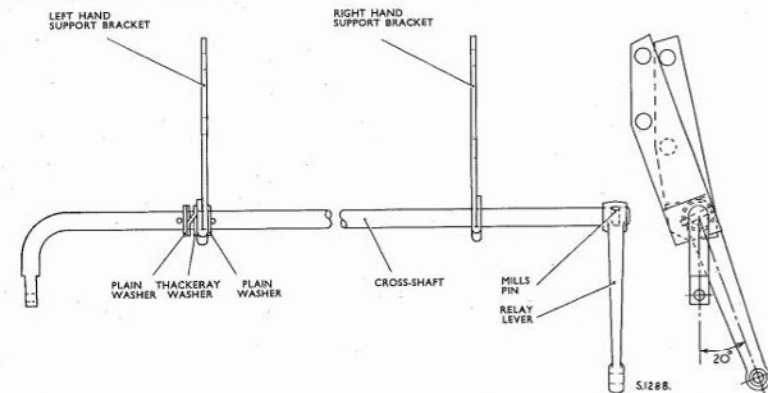

Fig. C.28. Accelerator cross-shaft arrangement, showing the angular disposition of the relay levers (L.H.D. Models)
2. Use new split pins when re-assembling the cross-shaft to the left hand support bracket, ensuring that the thackeray and plain washers are located in their original positions. Fit the right hand support bracket to the opposite end of the shaft and assemble the lever, so that the lever assumes the correct angular position (see Fig. C.28). Drill the lever and shaft, securing the components using a Mills pin.